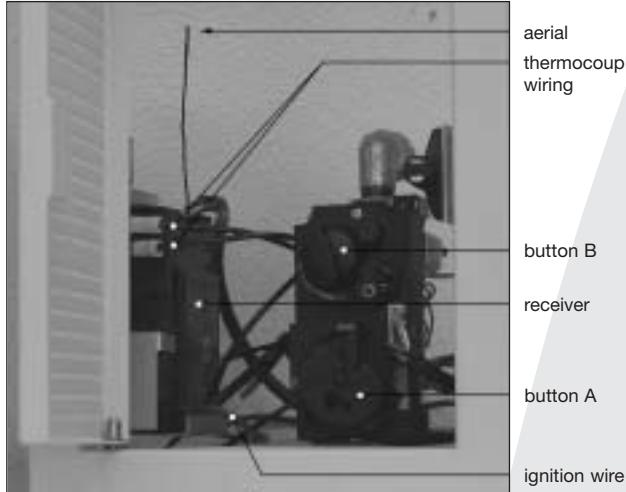

fig. 29
The receiver is located in the control box (see fig. 29).
- Place the receiver as indicated in fig. 29
**!Caution** - Do not place the antenna too close to the ignition cable and/or metal parts: make sure the antenna is pointing upwards (for the correct position, see fig. 29);